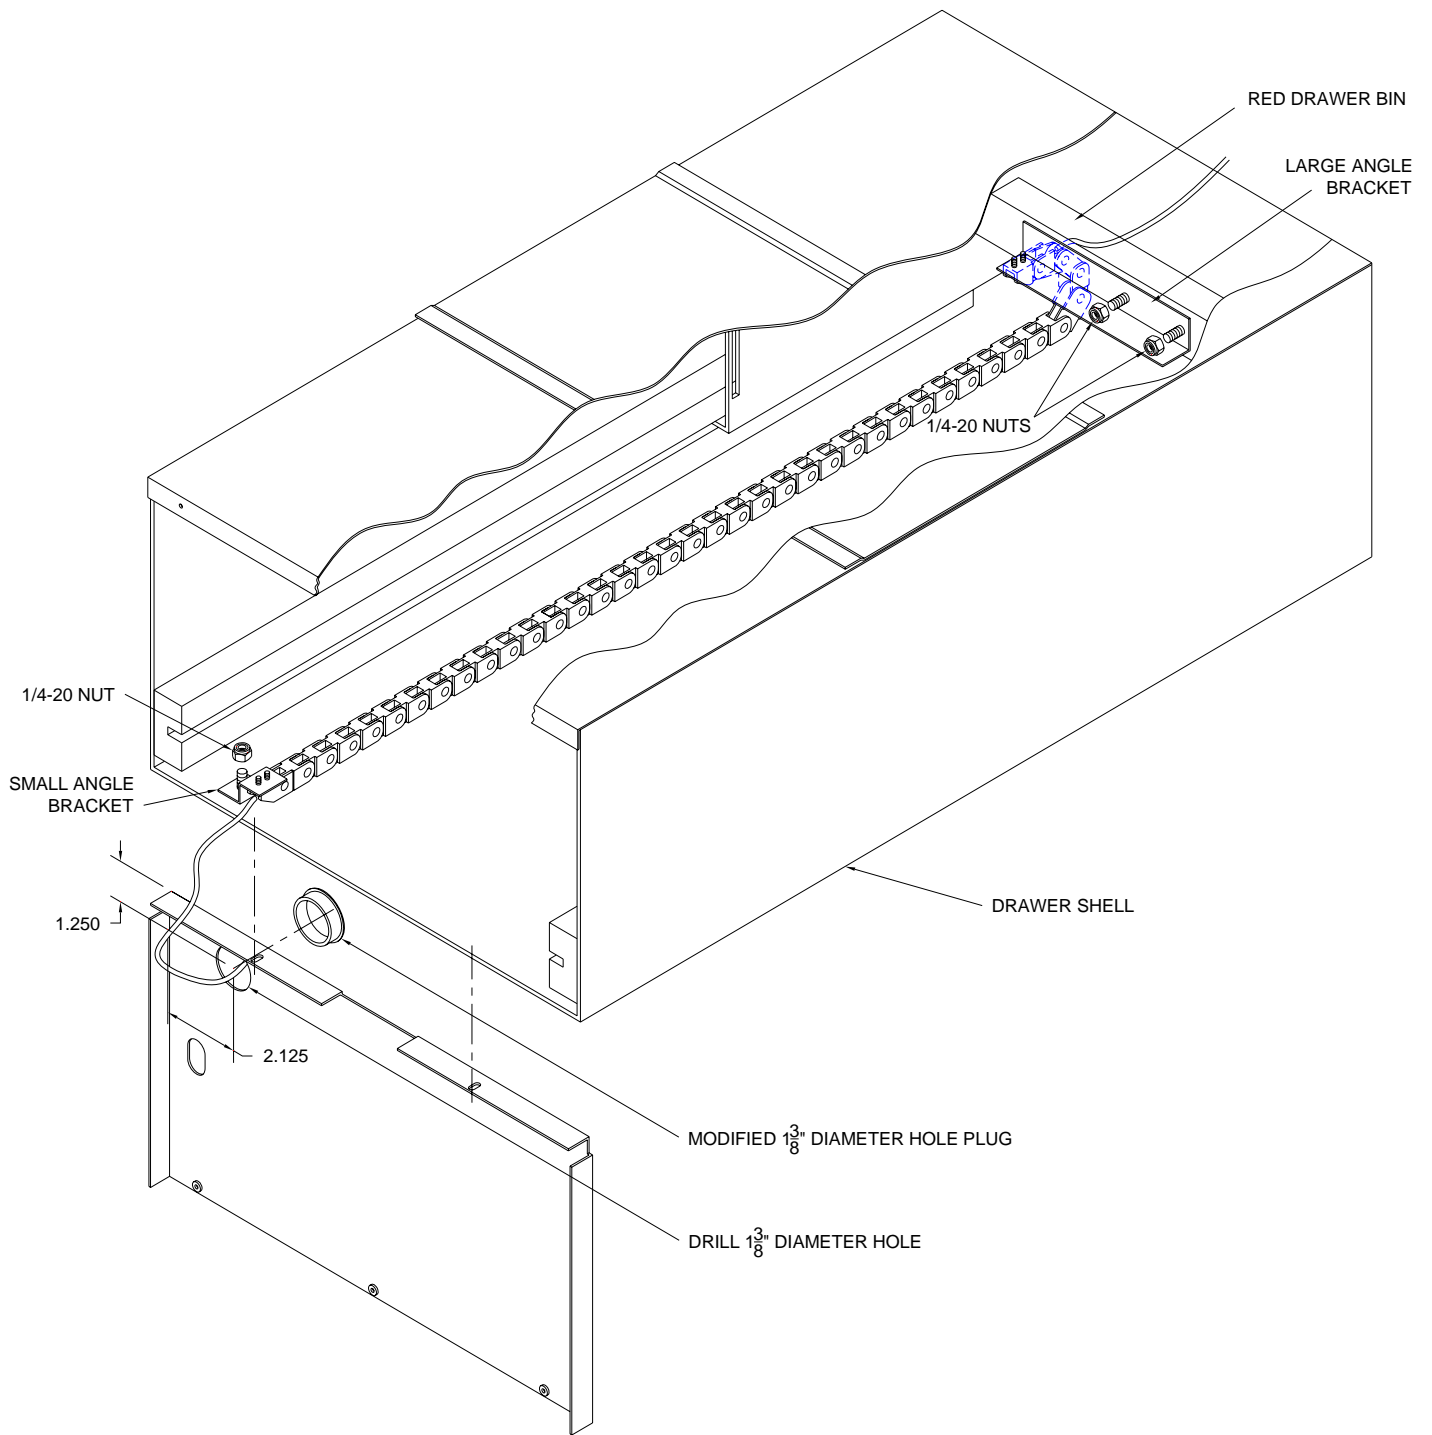

FIGURE 1
1. Run the drawer to the inside position, remove the five back panel screws, and remove the back panel (Figure 1).
9. Reinstall the red drawer bin, and hardware (Figure 1).
13. Remove the nut from the 1/4-20 stud located on the inside left of the drawer shell bottom (Figure 1).
19. Run drawer to make sure that cable is free from moving parts (Figure 1).